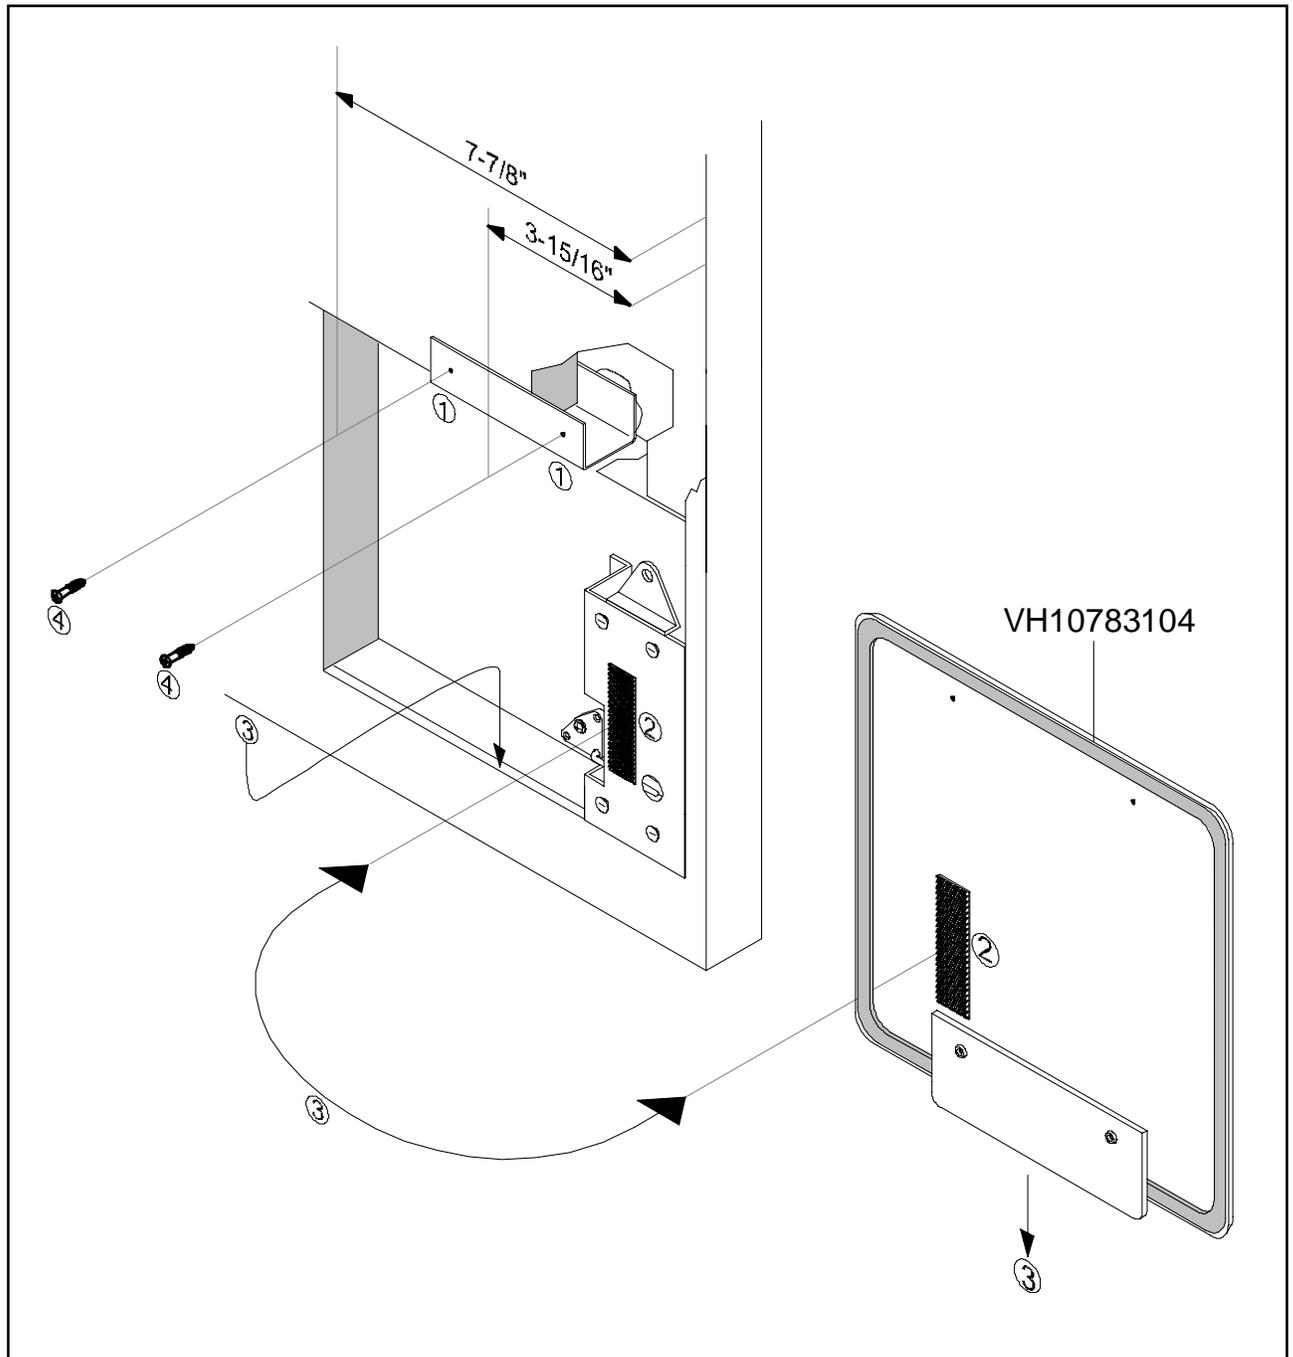
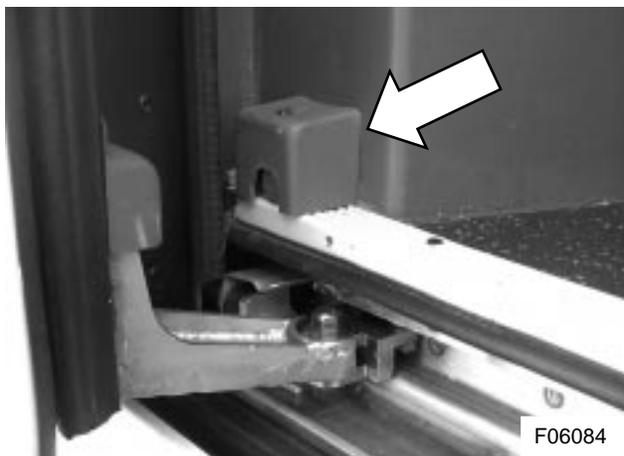

Figure 25: Trim closing panel installation
Figure 26: Proximity switch cover
- 3) Trial fit the closing panel (see Figure 25). The right hand edge should be approximately 25/32 inch (20 mm) from the doorpost. The bottom edge of the panel should be approximately 2-11/64 from the bottom edge of the door. Referring to the dimensions in Figure 26, drill two holes in the panel and the U-channel behind it to suit the recovered self-tapping screws (1, Figure 25).
- 4) Remove the closing panel and install Velcro strips on the door lock housing and the back of the panel (2, Figure 25).
- 5) Reinstall the cover panel (3, Figure 25) and secure with the self-tapping screws (see 4, Figure 25).
- 2) At the doorstep, undo and remove the self-tapping screw securing the cover of the proximity switch, which is installed next to the doorpost (see Figure 26). Remove the cover.